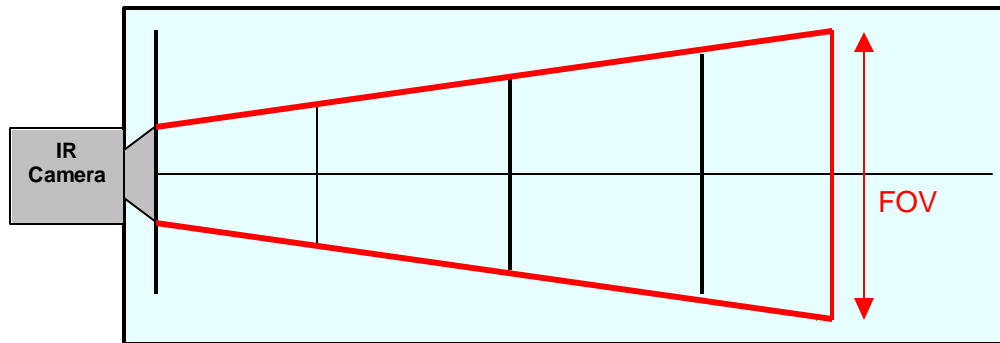

Fig. 4
3. Using a heat source (finger, warm coffee cup, etc.) move the object in from the left hand side outside the visual frame until it can be seen and mark the paper, repeat the same procedure for the right hand side and mark the paper (see fig. 4)